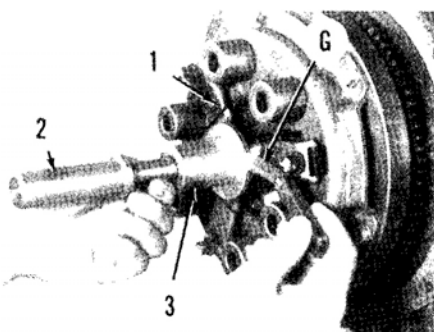

**Fig. 41—Exploded view of clutch assembly used on all models.**
**53. REMOVE AND REINSTALL.** To remove clutch assembly for service, first split tractor between engine and clutch housing as outlined in paragraph 52. Insert clutch centering tool into clutch disc as shown in Fig. 42. Remove cap screws securing cover (6-Fig. 41) and pressure plate (2) assembly to flywheel, then withdraw pressure plate assembly. Remove clutch centering tool along with clutch disc (1).
Allowable difference between release lever heights is 0-0.3 mm (0-0.012 inch). Check lever heights by installing clutch centering tool (2-Fig. 43) along with measuring tool (3), then using feeler gage (G), measure clearance between release lever (1) and measuring tool (3). Adjust release lever height by removing cotter key (11-Fig. 41) and turning castle nut (10).
**54. OVERHAUL.** Remove clutch assembly as outlined in paragraph 53. Remove cotter keys (11-Fig. 41), then exercising caution, remove castle nuts (10). Complete disassembly with reference to Fig. 41. Cover (6) and pressure plate (2) are renewable only as parts of the complete assembly.
Measure clutch disc wear using a suitable depth gage as shown in Fig. 44. Renew clutch disc if distance from clutch disc surface to top of rivet head is not at least 0.1 mm (0.004 inch). Inspect pressure plate (2-Fig. 41) surface for cracks, scoring, heat discoloration and excessive wear. Surface grind or renew as needed. Inspect springs (4) for cracks, weakness, warpage and any other damage. Inspect all other parts for excessive wear or any other damage. Renew all parts as needed.